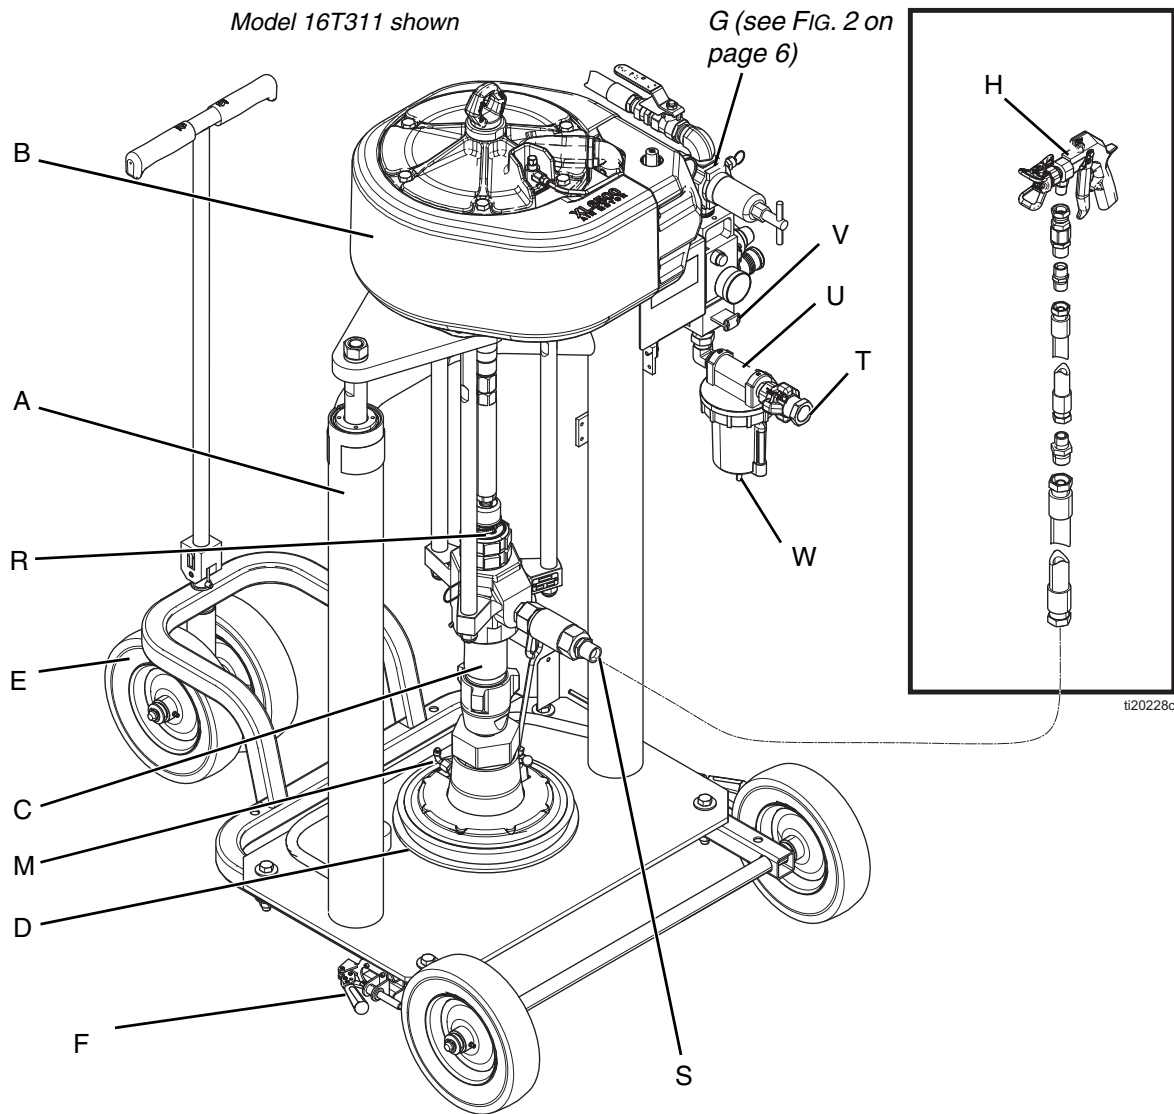

FIG. 1
See FIG. 1 on page 5.
3. Connect air line from an air source to the system air inlet. See FIG. 1. Use a supply hose capable of meeting the required flow.